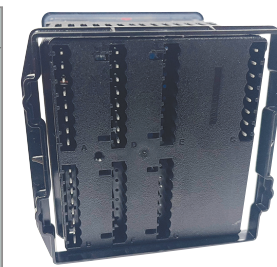

Figure 2
- Orient the collar base so the flat side faces front and the screw openings are on the sides (see figure 2), then slide the base over the back of the controller.